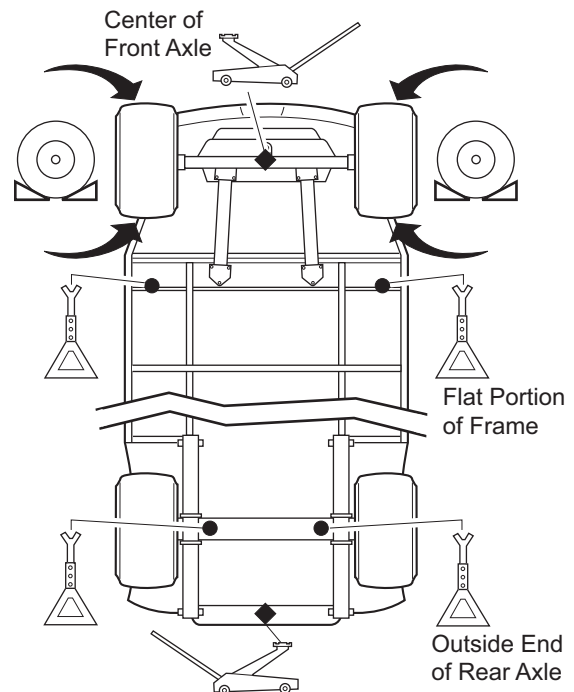

Fig. 2 Lifting the Vehicle
1. Install wheel chocks in front and behind each front wheel (Ref Fig. 2).
2. Place the jack at the center of the front axle (Ref Fig. 2).